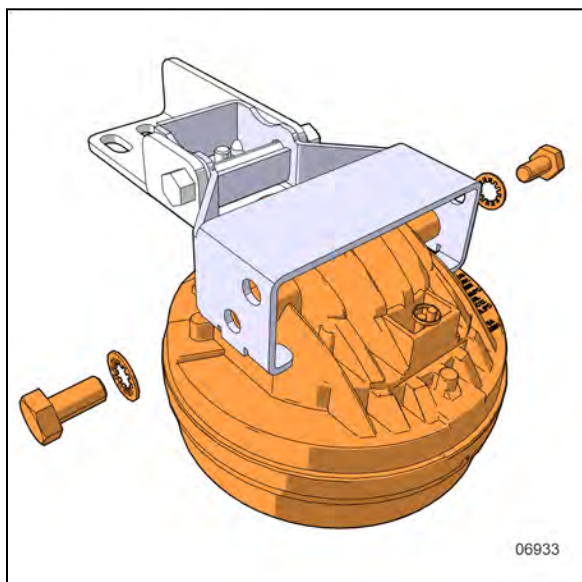

FIGURE 110: FOG LIGHT POD DISMOUNT
4. Install the new fog light pod on the pod support with the existing screws and lockwashers (Figure 110).